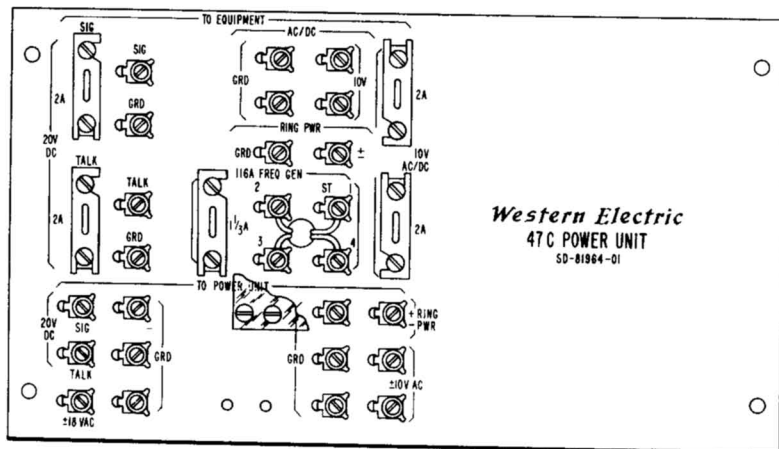

Fig. 3—Wiring Connections for 47C Power Unit
3.01 Charge the battery locally for 16 hours before installation. Install the battery in the 47C power unit and connect to a 19-, 20-, ◆29- or 30-type power unit (KSU Power Supply). See Fig. 3.
4.04 Connect the pigtail leads from the 116A Frequency Generator to terminals on the front panel (see Fig. 3) as follows: